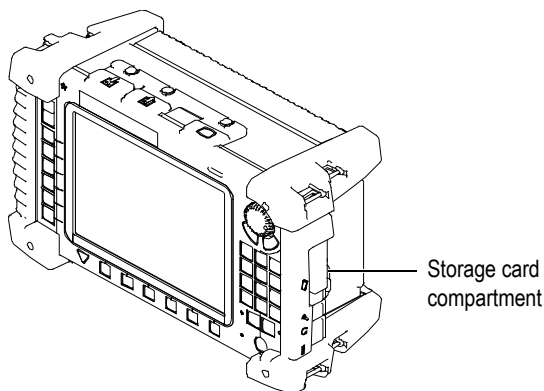

Figure 4-21 Inserting the storage card into its compartment
2. Insert the storage card containing the new software into the corresponding compartment on the right side of the OmniScan MX instrument (see Figure 4-21 on page 95).